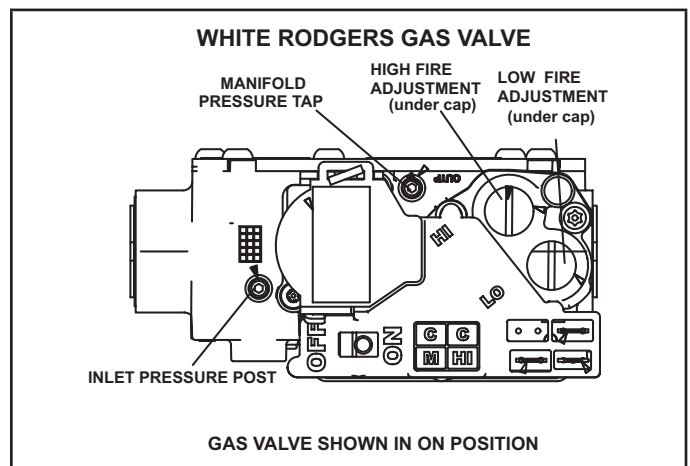

FIGURE 65
Gas Valve Operation (FIGURE 65)
- 6 - Move gas valve switch to **OFF**. See FIGURE 65.
- 8 - Move gas valve switch to **ON**. See FIGURE 65.
An inlet post located on the gas valve provides access to the supply pressure. See FIGURE 65. Back out the 3/32 hex screw one turn, connect a piece of 5/16 tubing and connect to a manometer to measure supply pressure. See TABLE 25 for supply line pressure.
A manifold pressure post located on the gas valve provides access to the manifold pressure. See FIGURE 65. Back out the 3/32 hex screw one turn, connect a piece of 5/16 tubing and connect to a manometer to measure manifold pressure.
- 5 - If necessary, make adjustments. FIGURE 65 shows location of high fire and low fire adjustment screws.